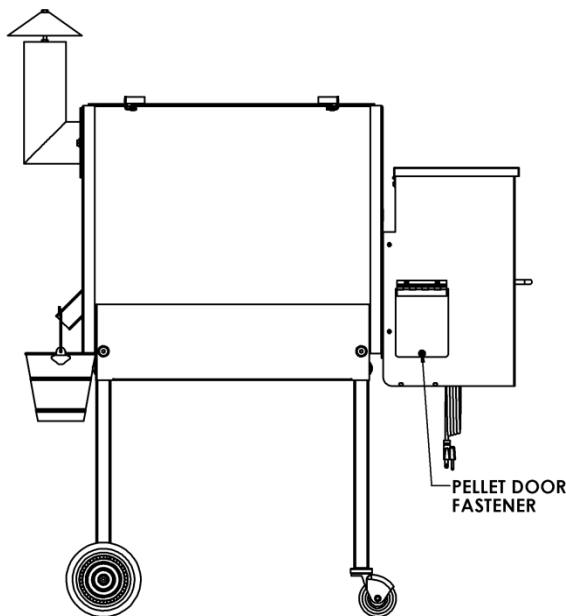

Figure 4-3
- 2) Unscrew the fastener located on the door of the hopper cleanout and lift the door to open allowing the pellets to fall into the container below. (see Figure 4-3)